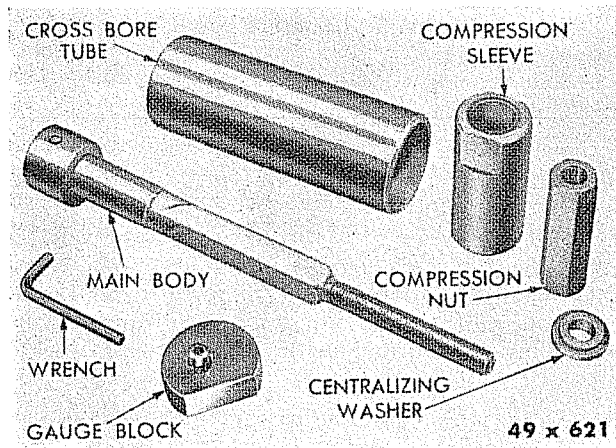

Fig. 7—Special Tool Set C-758-D.
7. REAR AXLE ADJUSTMENT. (Using Special tool C-758-D, see Figure 7).